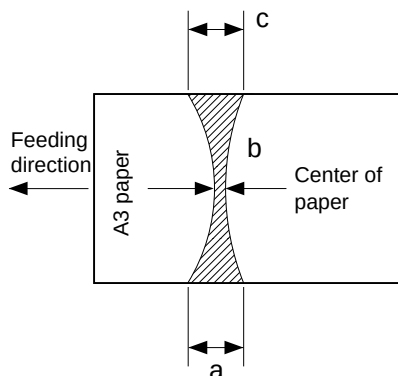

Figure 11-246
- A3 copy paper is picked up and discharged as shown in Figure 11-246 ready for measurement.